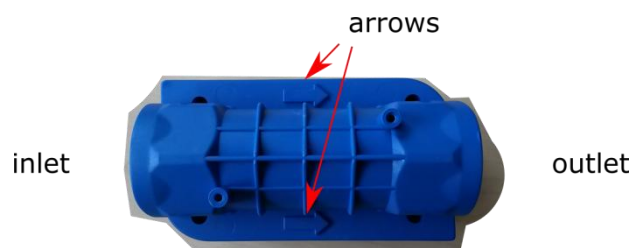

Figure 6. Respect the flow direction displayed on the flow sensor body.
When installing the flow sensor to a drip line, connect the flow sensor inlet to the outlet of the pump, and connect the delivery hose into the flow sensor outlet. It is important to **respect the flow direction** looking at the arrows on the flow sensor body (Figure 6).
- Make sure that the flow sensor direction is correct, as shown on Figure 6.